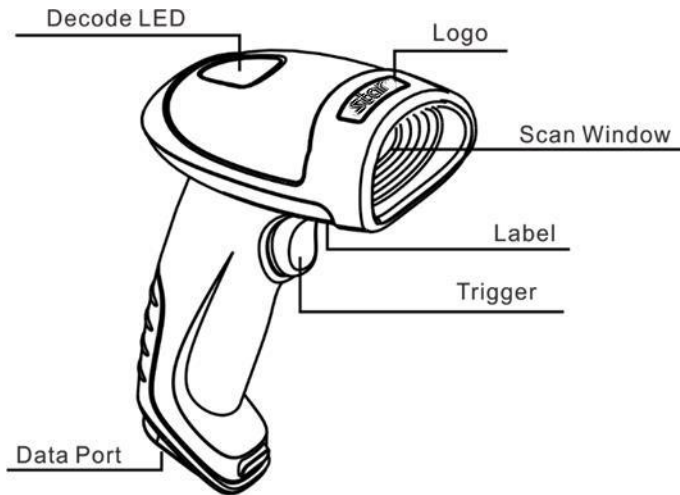

Fig. 1-1
1. Plug the RJ45 connector into the data port (see Fig.1-1) on the BSH-32U scanner.